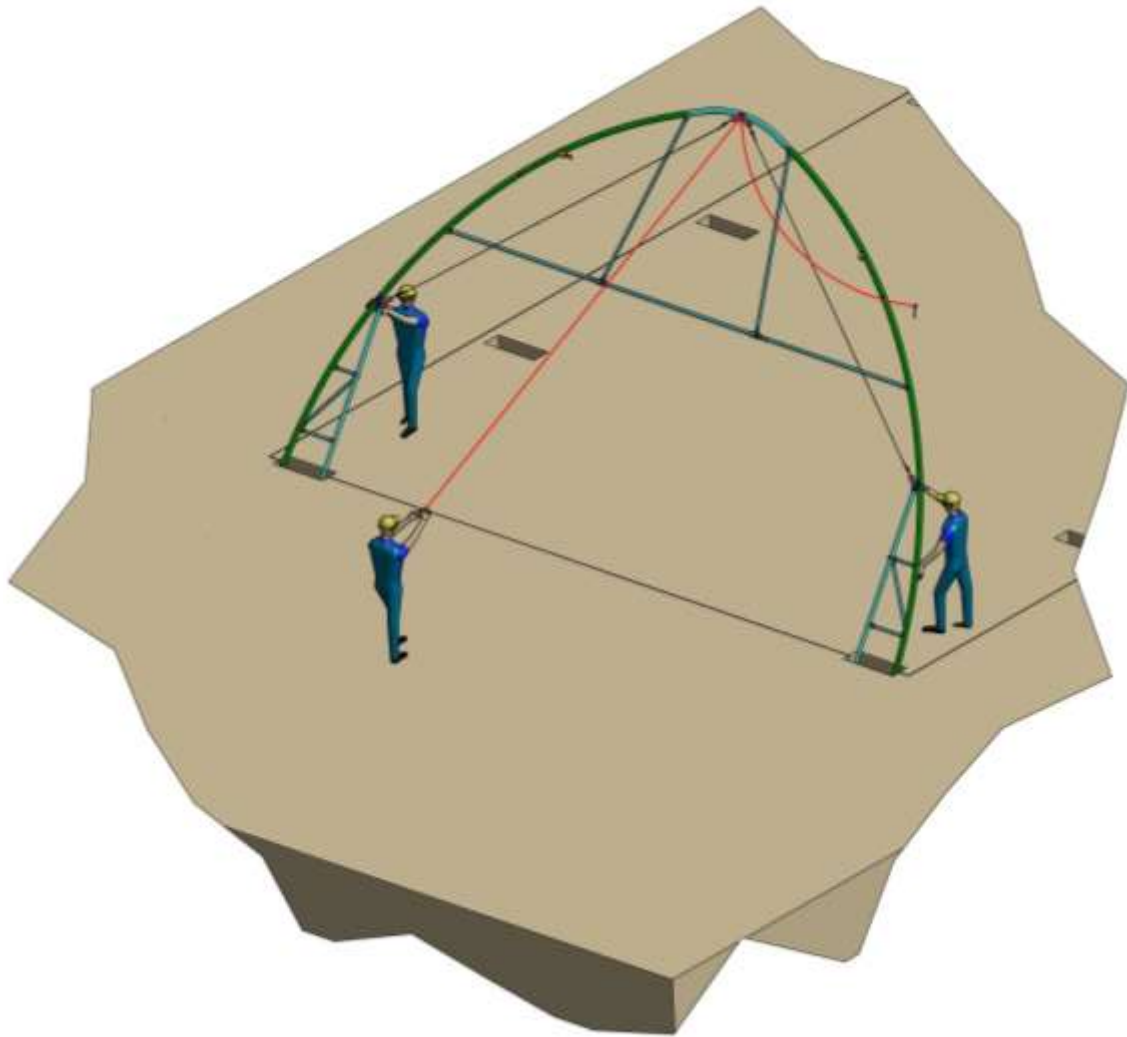

Figure 12: Raising the first arc
- Stabilize with two ropes and anchors (Figure 12).